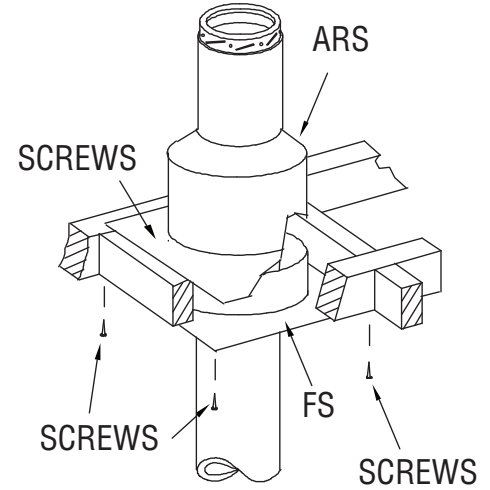

Figure 8
Step 5. Install a Firestop Plate (FS) in each floor through which the chimney passes.
Step 7. At the attic level, install a Firestop Plate (FS), from below and an Attic Radiation Shield (ARS) and Storm Collar from above (see Figure 8).